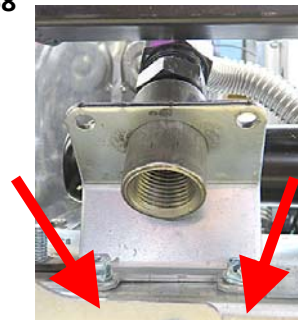

Figure 60
59. Align the fresh oil fill assembly to the pre-drilled holes and attach using 1/4"-20 bolts (see Figure 60).